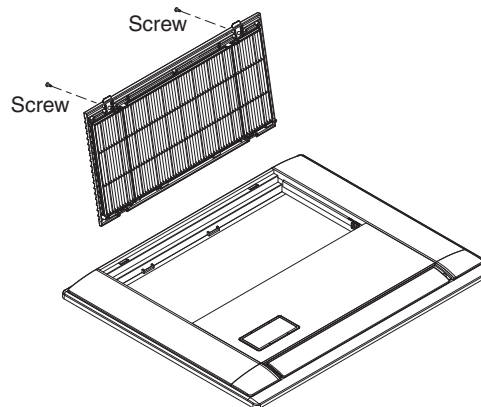

Fig. 3-83
- To install the intake grille, follow the procedure for removing it in the reverse order. (Fig. 3-83)
- When installing the intake grille, be careful that the flap lead wire does not become pinched. (Fig. 3-83)